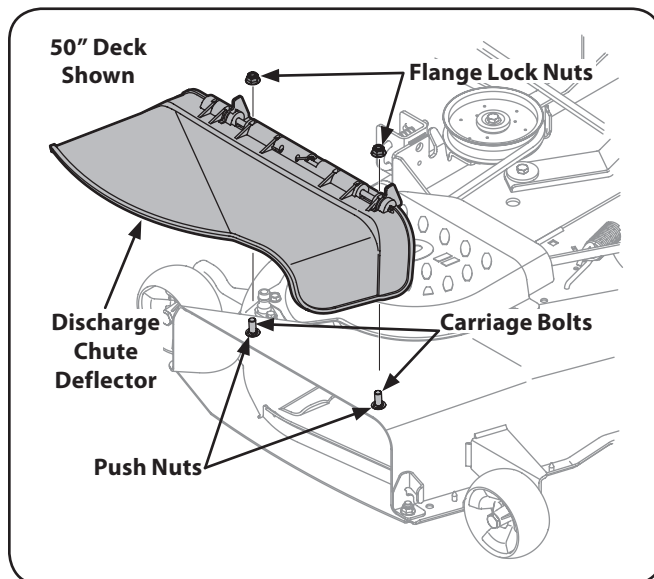

Figure 4-6
3. Install the discharge chute deflector using the carriage bolts, push nuts and flange lock nuts as shown in Figure 4-6 and securely tighten the hardware.